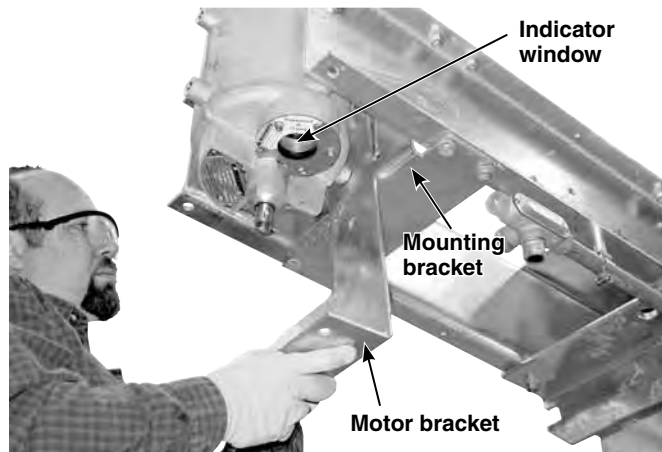

Figure 41. Insert motor mounting bracket if applicable.
a. Insert one of the two  $\frac{1}{4}$ -inch-thick “L”-shaped motor brackets in place of the spacer plate from the underside of the cross-base. Position it between the pole-unit mounting bosses positioned as shown in Figure 41.